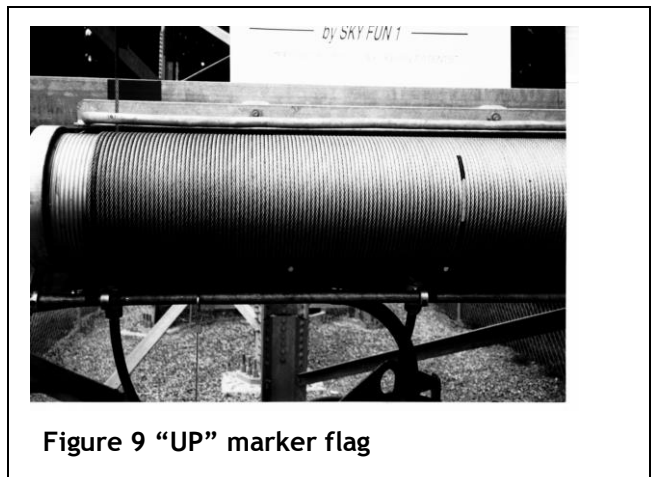

Figure 9 “UP” marker flag
- C. Use red cloth tape to make the UP marker flag on the launch cable just above the winch drum. Refer to Figure 9.